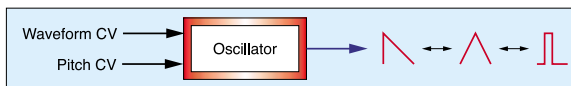

Figure 6: An oscillator capable of morphing from one waveform to another smoothly in real-time.
► So which synthesizer waveform should we use for our sound? One answer remains the sawtooth, the only common waveform that includes all the harmonics in the series. It's inevitable that these harmonics will be present in the wrong proportions, but at least they're present. However, a better choice would be to use an oscillator with a CV input that allows us to modify the harmonic content of the wave during the course of the note. At this stage, we've no way of knowing what we might apply as the modifying CV, but at least the facility is available (see Figure 6, above right).